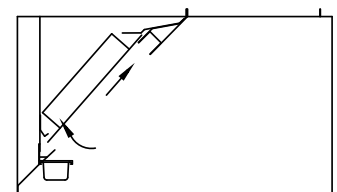

Fig. 17
1. Slide the top edge of the second stage filter into the top rear filter channel; Fig. 17.